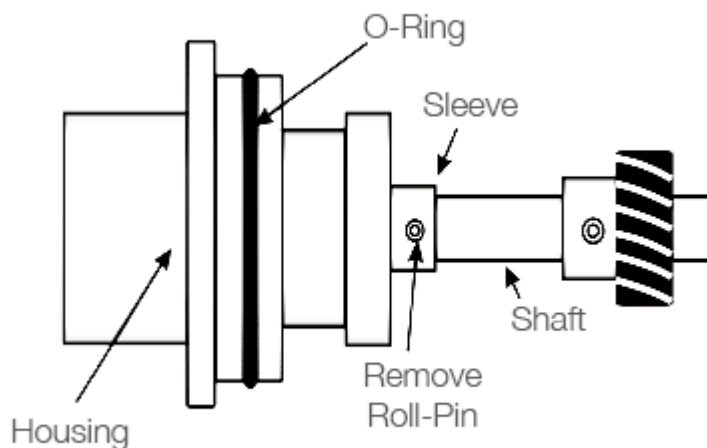

Figure 6
- 2). Remove the roll-pin from the shaft retaining sleeve and slide the shaft two inches out of the housing (Figure 6).